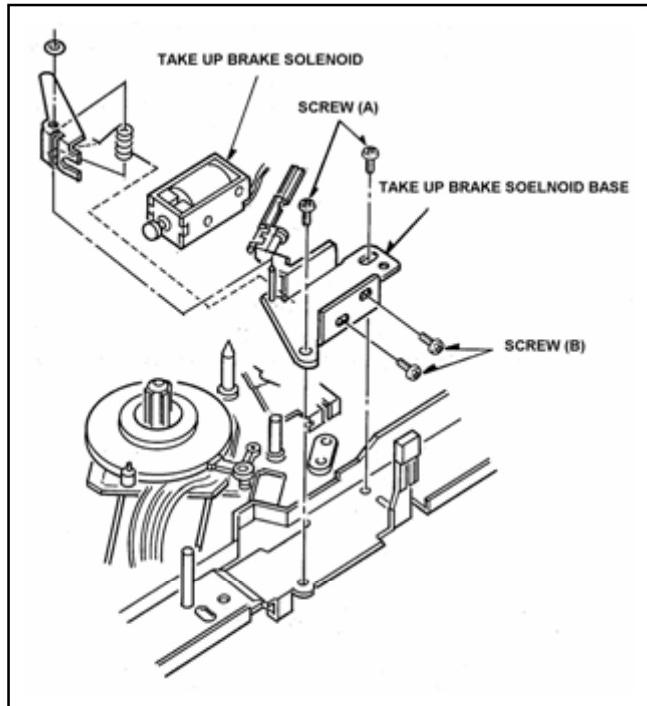

Figure 5-9-1
2. Unscrew the 2 screws (A) and remove the Take Up Brake Solenoid Base Unit as shown in Figure 5-9-1.
3. Unscrew the 2 screws (B) and remove the Take Up Brake Solenoid from Take Up Brake Solenoid Base Unit as shown in Figure 5-9-1.
**Hang on the Take up Brake Spring as shown in Figure 5-9-1.**